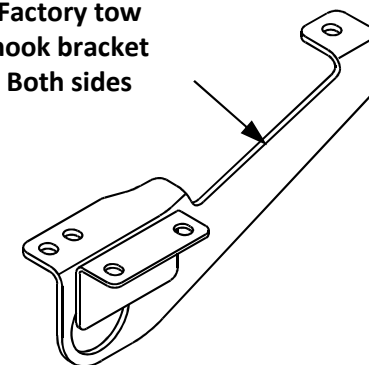

Figure 2
- 1. Remove tow hook brackets** – Using a 17mm socket, remove factory tow hook brackets (if present) by removing (10) M12 flange head bolts. Return bolts & brackets to vehicle owner. **See Figure 2.** **NOTE:** For vehicles without factory tow hook brackets, it may be necessary to clean the existing weldnuts in frame using a wire brush or compressed air.
1. **Remove tow hook brackets** – Using a 17mm socket, remove factory tow hook brackets (if present) by removing (10) M12 flange head bolts. Return bolts & brackets to vehicle owner. **See Figure 2.** **NOTE:** For vehicles without factory tow hook brackets, it may be necessary to clean the existing weldnuts in frame using a wire brush or compressed air.